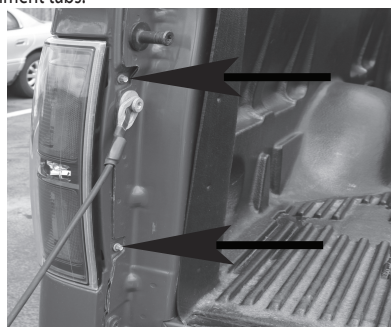

Figure 1
2. Open tailgate and using a 8mm socket remove bolts holding taillights on driver and passenger side shown in **Figure 1**. Gently pull taillights away from vehicle taking care not to damage the alignment tabs.